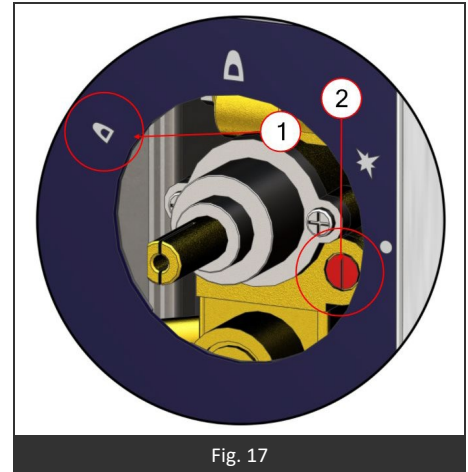

Fig. 17
- Set it to the low output position (Fig17. Item 1)
- Tighten the low output screw (Fig.17 Item 2) + or – to reduce the flame by 2/3.